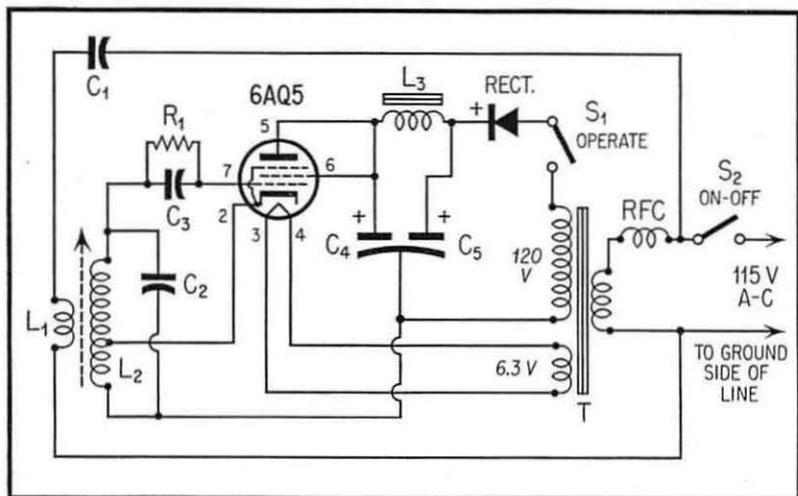

Fig. 1. Transformer-Coupled Wired-Radio Transmitter.
**Transformer-Coupled Circuit.** See Figure 1. This transmitter employs a triode-connected 6AQ5 tube in a self-excited Hartley oscillator circuit. A fixed tank capacitor ( $C_2$ ) and slug-tuned tank coil ( $L_2$ ) are provided. Radio-frequency output is delivered to the power line by the coupling coil,  $L_1$ , which consists of 5 turns of insulated hookup wire wound tightly around the outside of  $L_2$ . Blocking capacitor  $C_1$  prevents short-circuit of
Since this circuit is transformerless, it can constitute a shock hazard. For this reason, no part of the circuit should be connected to the chassis or metal housing of the transmitter. In some instances, the greater simplicity and smaller size of this transmitter will cause it to be preferred to the bulkier transformer-type unit shown in Figure 1.
#### PARTS LIST FOR FIGURE 1